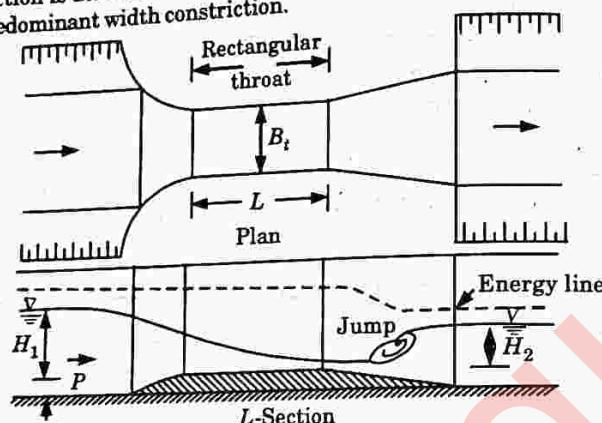

Fig. 2.32.1 Standing-wave flume
- The critical-depth flume shown in Fig. 2.32.1 is known as a standing-wave flume or throated flume. This flume can be fitted into any shape of the parent channel. The throat is prismatic and can be of any convenient shape.